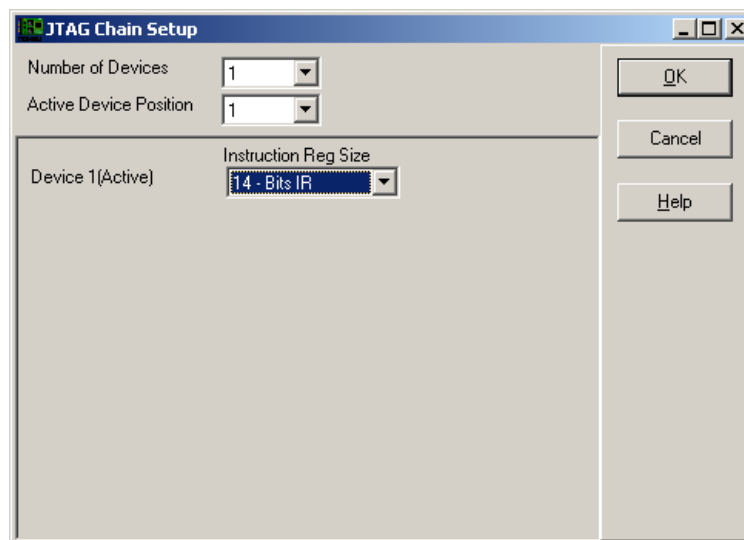

Figure 6. Emulator Configuration Window Configure JTAG Chain Button
- **JTAG Chain:** Used to configure the JTAG chain setup so that Seehau can talk to the PowerPC core in the current scan chain. The Seehau Software will attempt to automatically detect and configure this option (See Figure 6).
- **JTAG Chain:** Used to configure the JTAG chain setup so that Seehau can talk to the PowerPC core in the current scan chain. (See Figure 6).